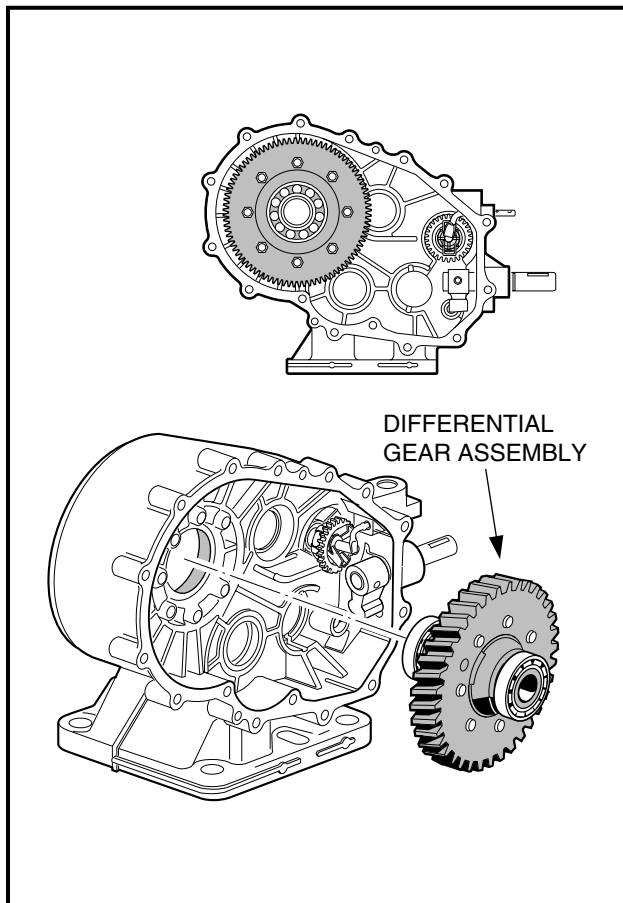

Figure 5-45 Differential Gear Assembly
- 7.1. Stand the left side case on the mounting plate, then install the differential gear case assembly (**Figure 5-45, Page 5-23**). Do not seat the assembly in the bore, instead insert it far enough that it will not fall out.